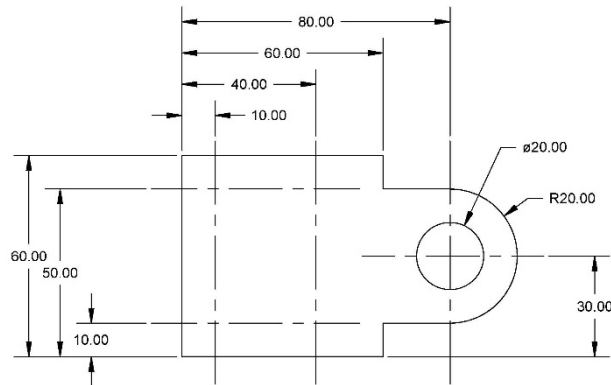

Figure 5-03
8. Draw the two drawings in Figures 5-03 and 5-04
Note that Figure: 5-03 is from Lesson 1, Quick Start
9. Project the Front View of Figure: 5-03